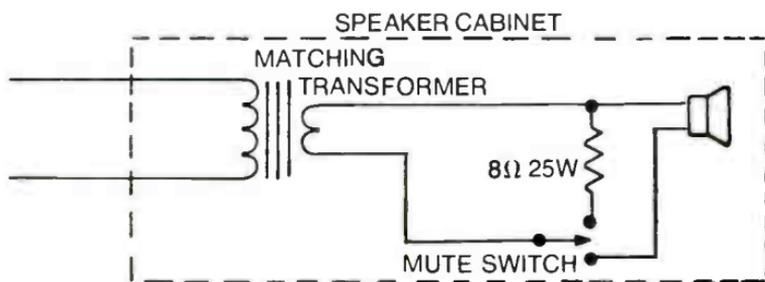

Fig. 6-14. Add a switch to speaker cabinet to act as a manual mute.
**Switch Mute**—There are times when it is desirable to shut the speaker completely off in the studio because rehearsals are going on. Many of the *T*- and *L*-pad controls used on the individual speakers will not shut off completely. A switch on the speaker cabinet can be installed that substitutes a load resistor on the amplifier when switched to remove the speaker. (See Fig. 6-14.)